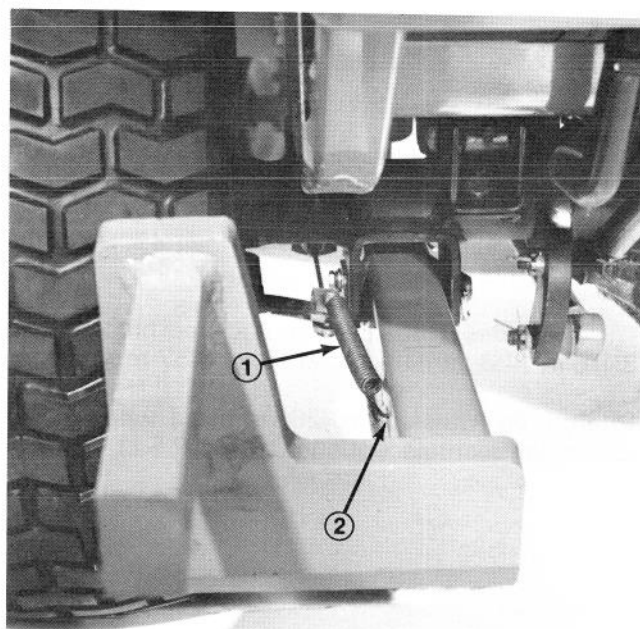

Figure 3
3. Remove cotter pins from clevis pins holding brake struts and yokes together, and discard the cotter pins. Keeping clevis pin in place, install short end of spring into hole in clevis pin to retain parts together. Connect other end of springs to slotted holes in frame. (Fig. 3).